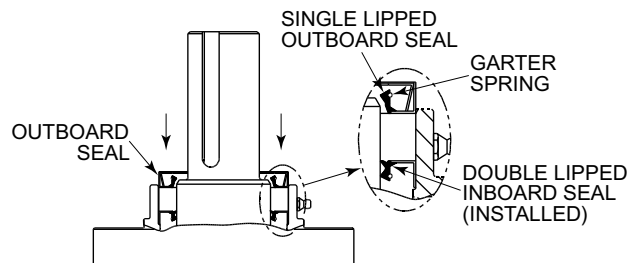

Figure 6.2.2.5 Orientation of Outboard Seal for Installation
11. Place the ring on the seal. Reference **Figure 6.2.2.6**.